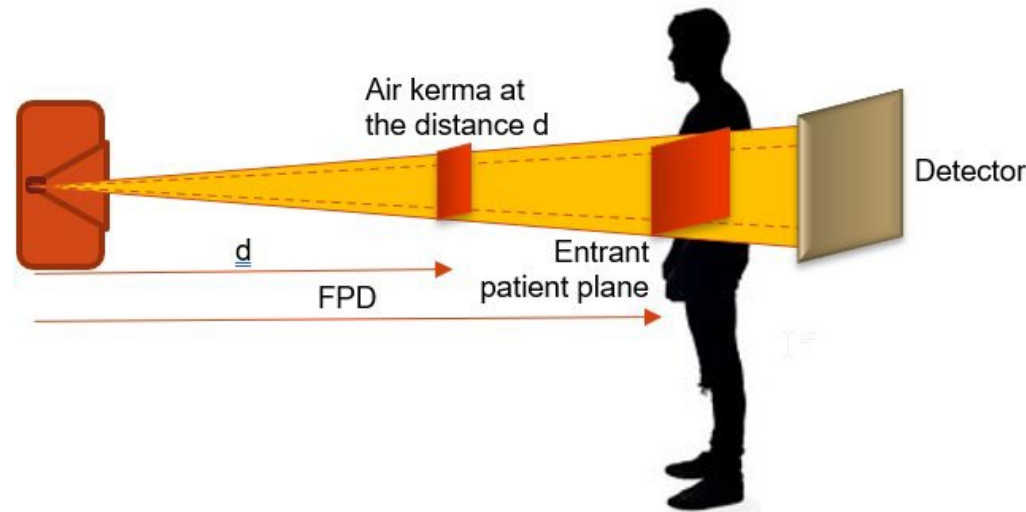

Fig. 25 – Entrance skin dose
- The entrance skin dose (ESD) is the dose to a thin layer of skin as the X-rays reach surface of the patient (Fig. 25).